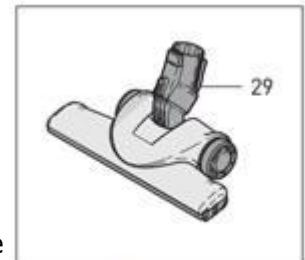

Figure 13
To change the filter bag, set the canister upright (as shown in figure 13), press the cover release catch and lower the filter bag cover (26). Grasp the green filter bag sealing plate (46), slide the plate from the holder (48) and push the filter bag cap (47) on to seal the bag. Slide the sealing plate (46) of a new bag into the bag holder slots (48) and push it in firmly until it locks into place. Close the cover, making sure it snaps shut completely. You may find it convenient to store the bag cap inside the filter bag housing below the filter bag. Do not reuse the filter bags. Note: the nature of the contents of the filter bag will affect the point at which it needs changing. Fine dust may require an earlier change even though the bag is not full. Fluff or hair allows air to pass through easily, so the filter bag may overflow before the amber bag full light illuminates.